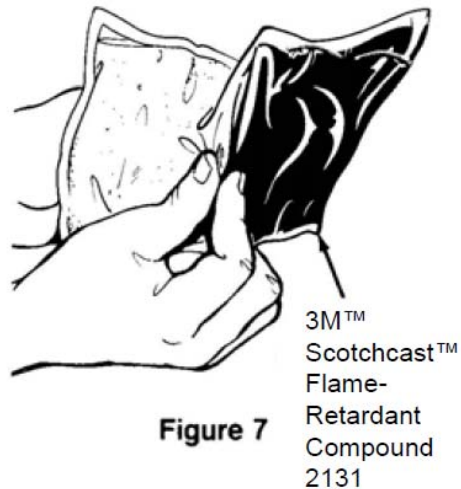

Figure 7
- Firmly grasp each flat side of the closed mixing pouch near the center barrier; at the same time pull sides of barrier apart and roll sides of thumbs through barrier. Break the barrier all the way across to the side seals. (Figure 7)